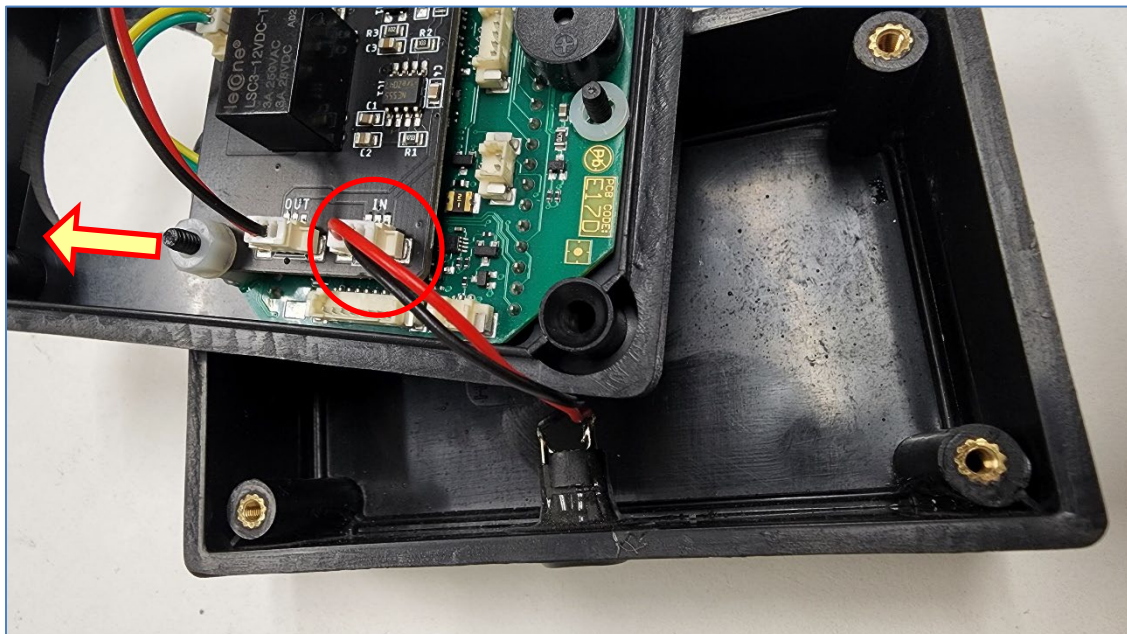

Figure 10. Connect external power supply wires to indicated port on SMART START Module.
4. Connect external battery supply wiring to open connector on SMART START Module labeled "IN" (Figure 10).